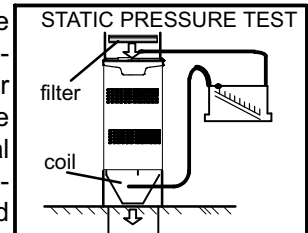

FIGURE 17
- 1 - Tap locations shown in figure 17.